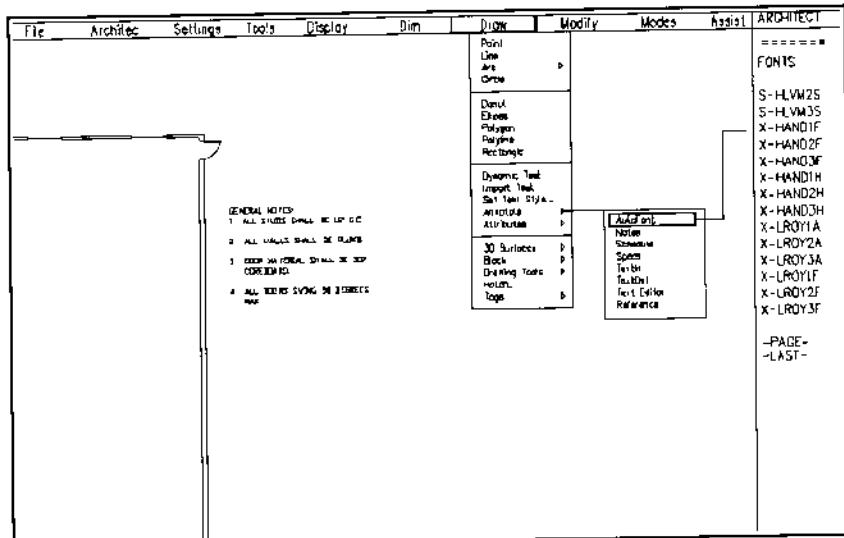

Figure 3.
3. Select TextIn from the Annotate submenu to insert the GENERAL.NOT file on the right side of the drawing, as shown in Figure 3. Use ASG's "auto" as the distance between lines.
- > Pick start point or Align/Center/Fit/Middle/Right/Style: **[pick a point near the upper right corner of the drawing to begin the text file as shown in Figure 3]**
3. Pick at the bottom of the side screen menu to scroll the menu up until X-HAND1F appears, as shown in Figure 3.
- > Text style name (or ?) <STANDARD>: X-HAND1F [select X-HAND1F from side screen menu as shown in Figure 3]